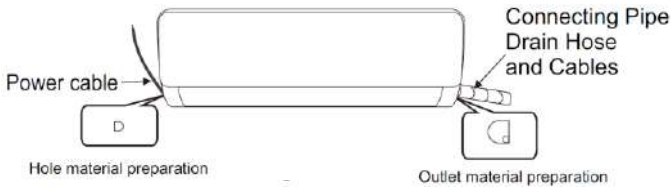
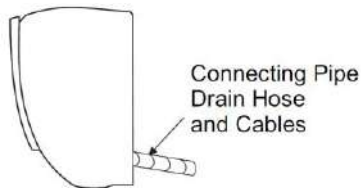

Fig. 5
Fig. 6
1. Depending on the position of the unit, the piping may be routed sideway from the left or the right (Fig. 5), or horizontally from the back (Fig. 6) (depending on the pipe length of the indoor unit). In the case of sideway routing, cut off the outlet cutting stock of the opposite side.